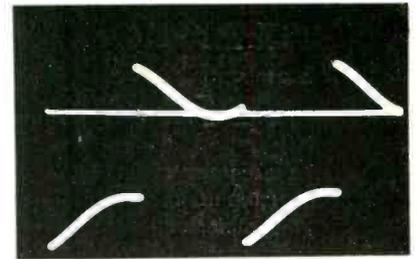

Fig. 5—60 cycle square wave with curvature present.
A. Fig. 4 shows a 60-cycle square wave without curvature, and Fig. 5 shows a 60-cycle square wave with curvature present. This curvature is not caused by frequency distortion, but by hum distortion. In other